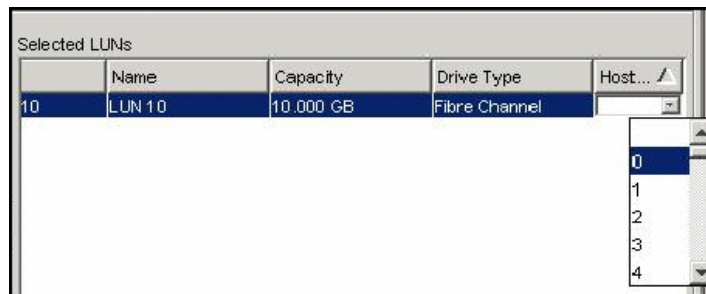
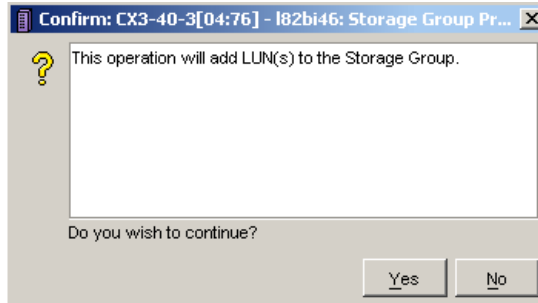

Figure 8-36 Selected LUNs window
Figure 8-37 I82bi46:Storage Group Properties window
- Under Selected LUNs, scroll to the right of the Capacity column until you see the Host column. Assign the Offset value of zero (0) to the boot LUN (Figure 8-36). It is required that the boot LUN gets the lowest LUN ID value and additional LUNs can have values higher than the boot LUN. Click **Apply** and **OK**. You will see a window similar to Figure 8-37 on page 255.